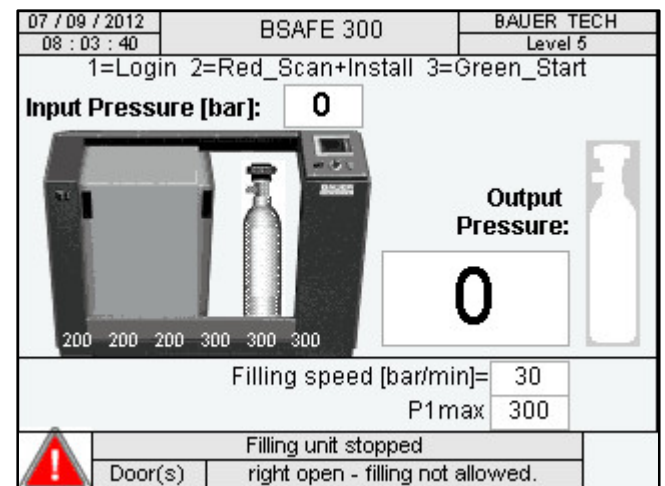

Fig. 6 Main page: filling not allowed (2/2)
- Doors open – message at the bottom of the screen "Right open - filling not allowed" (Fig. 6)